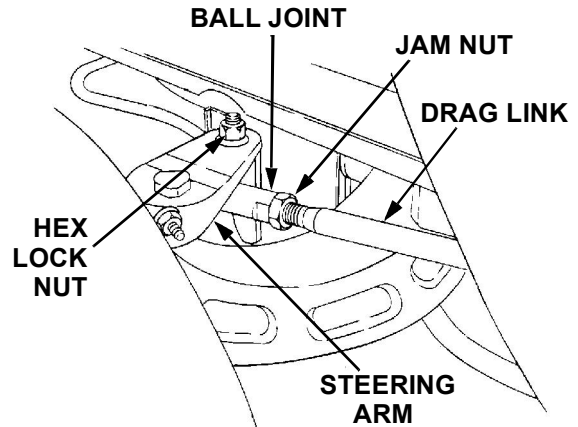

Figure 6-5
4. Loosen the jam nuts from the ball joints (See Figure 6-5).
5. Disconnect the front ball joints from the steering arms by removing the hex lock nuts (Refer to Figure 6-5). Manually move each wheel to achieve the required toe-in *and* equal D measurements.